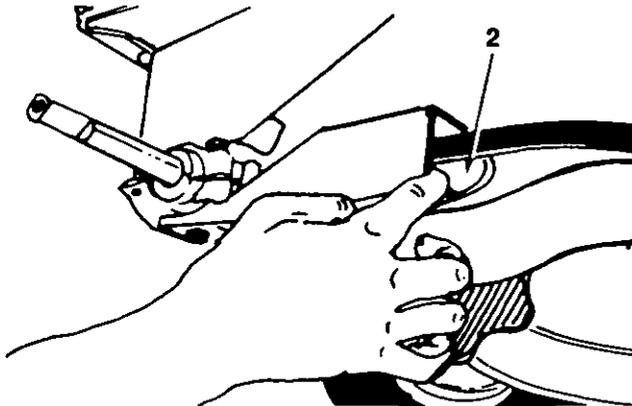

FIGURE 2.
6. Pivot the lower outside belt guard out and away from the engine pulley. See figure 2.